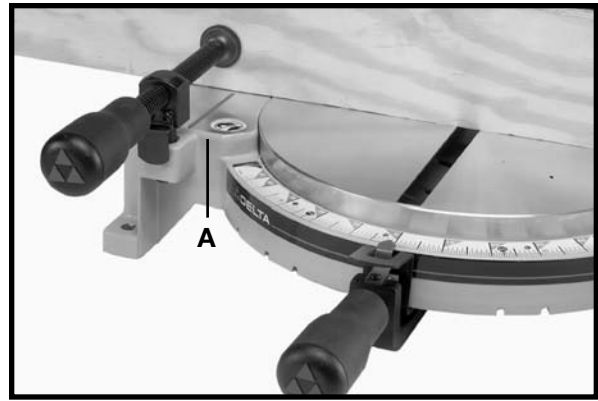

Fig. 35
2. Firmly clamp the workpiece to the table against the fence. Fig. 35 illustrates the work clamp (A) used to clamp the workpiece to the fence. The clamp (A) can also be used on the right side of the machine.
**4. WARNING: If the workpiece causes your hand to be within the hazard zone of the saw blade, clamp the workpiece in place before making the cut (Fig. 35.)**